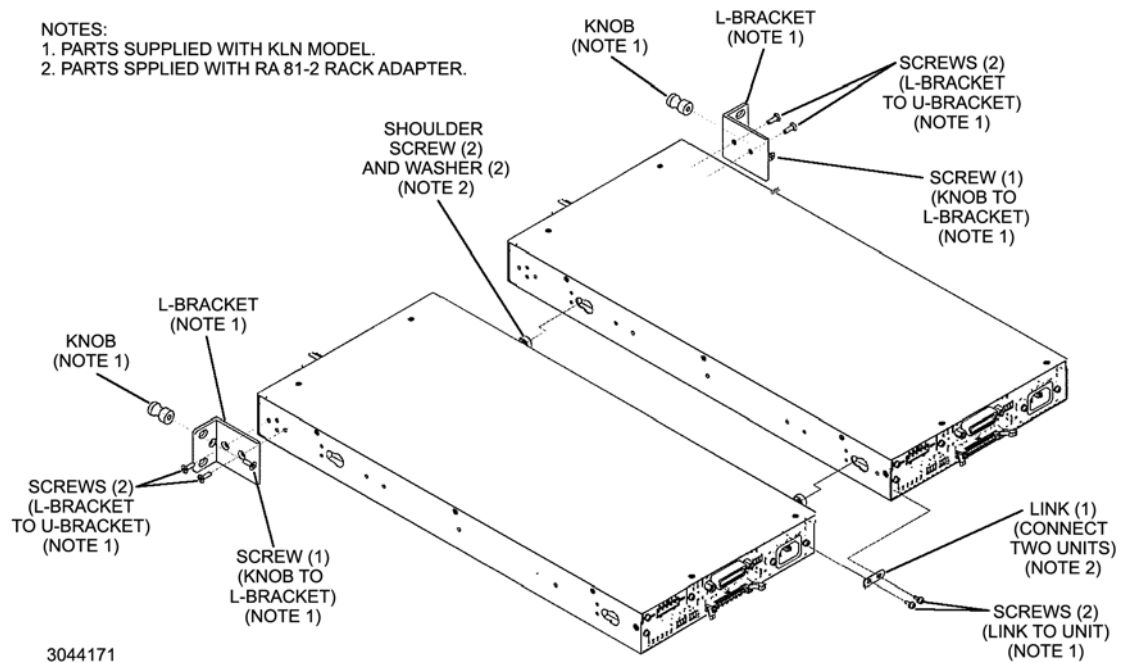

FIGURE 2-8. MOUNTING TWO KLN 750W UNITS IN 19-INCH RACK
1. Place the two units side by side as they would be installed in the rack. On the outer side of each unit (not facing the other unit), mount one L-type bracket with knob (supplied with unit) to each unit using two screws supplied with unit for each (see Figure 2-8).